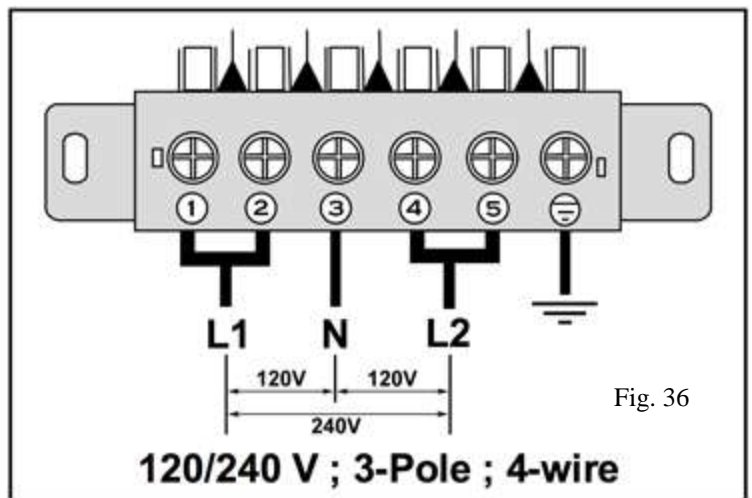

Fig. 36
- Connect to terminal block in accordance with figure 36.